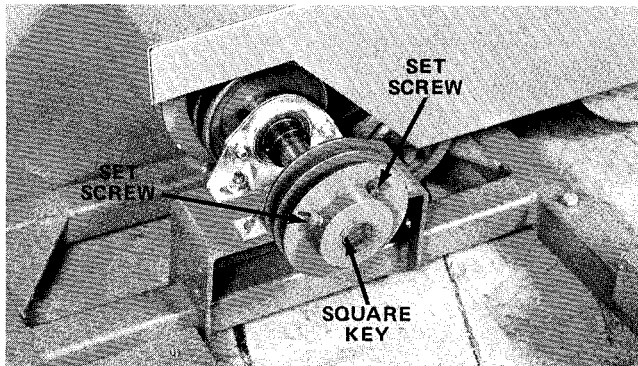

Figure 2
2. Mount pulley to shaft with square key and (2) set screws (Fig. 2).